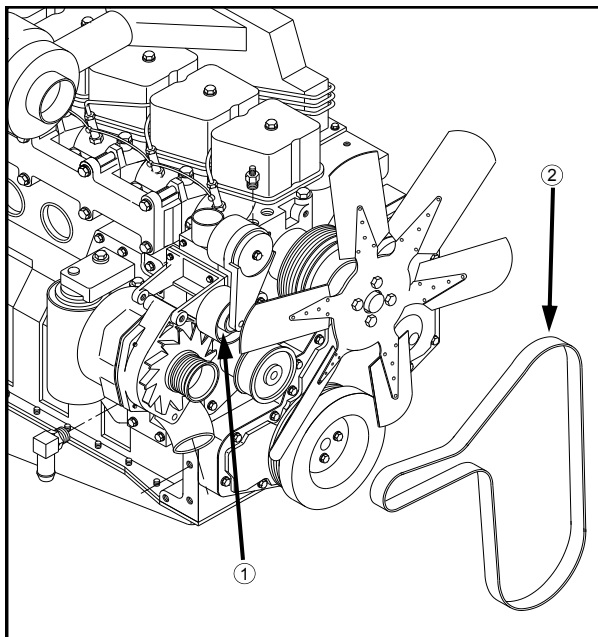

FIG 7.43
REMOVAL - Insert a 3/8 inch square ratchet drive into the belt tensioner (fig. 7.43, item 2).